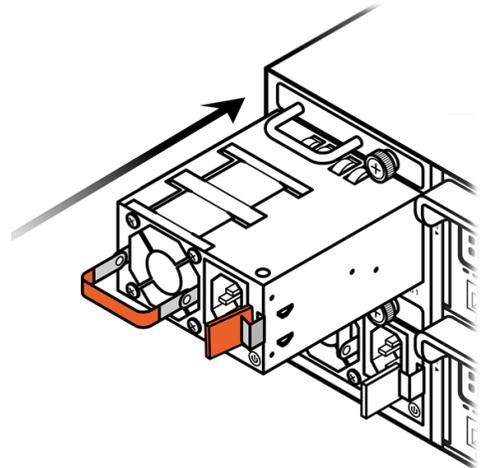

Figure 1-6. Installing the PSU
1. Align the replacement PSU with the chassis bay and slide it completely in. See Figure 1-6.